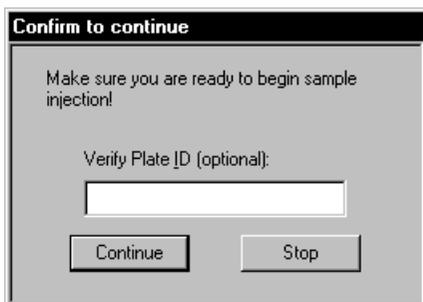

Figure 4-11. The Confirm to continue window with optional plate ID verification.
3. Follow the instructions on the instrument displays. After the first tip rinse is finished, the Confirm to continue window appears in the Instrument Control Manager (figure 4-11).